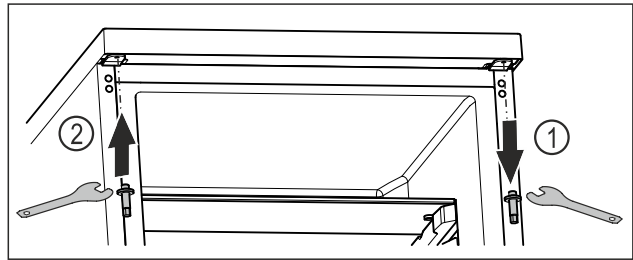

Fig. 23
- ▶ Unscrew the upper bolt with an Allen key. Fig. 23 (1)
- ▶ Tighten the bolt on the opposite side with an Allen key. Fig. 23 (2)